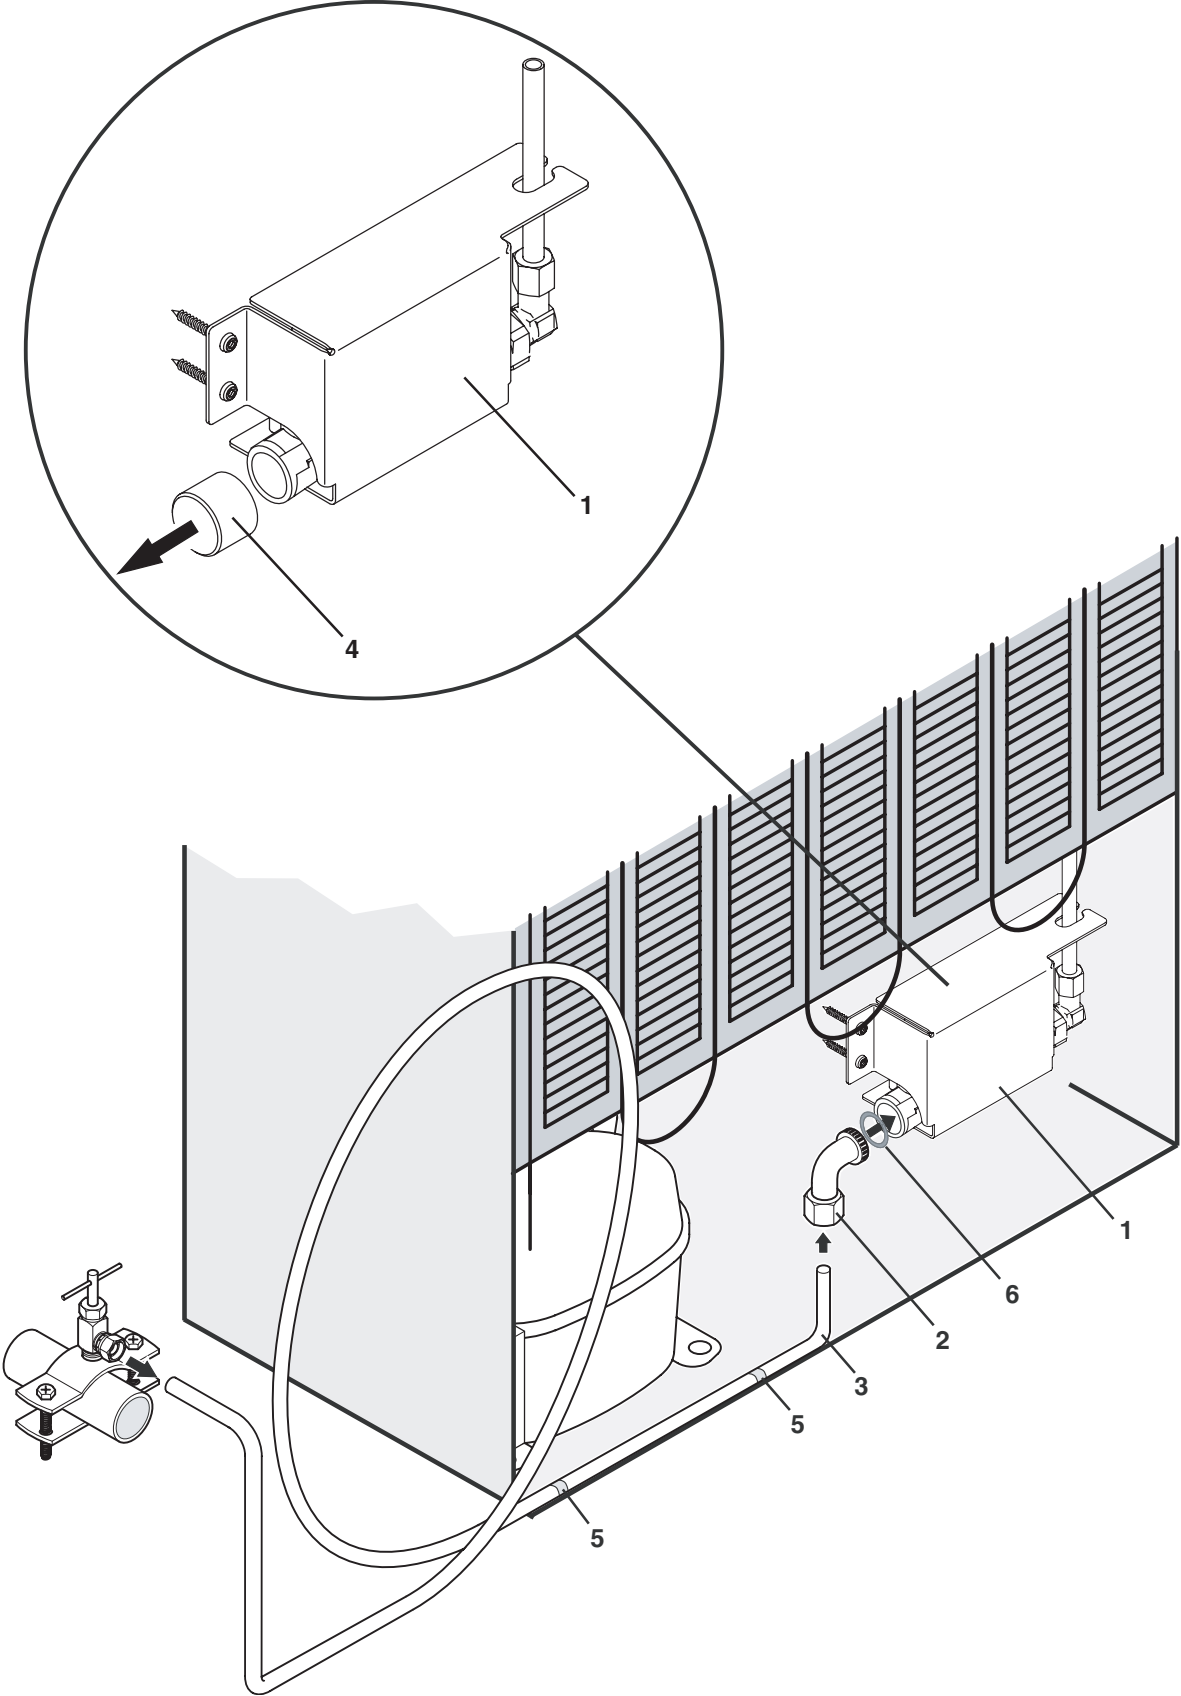

Figure 24
Figure 24: Remove the cover cap (4) from the solenoid valve (1). Install the connection bracket (2) with sealing ring (6) on the solenoid valve (1). Attach the copper tube to the connection bracket (2). Secure the copper tube (3) to the appliance using the cable clip (5).